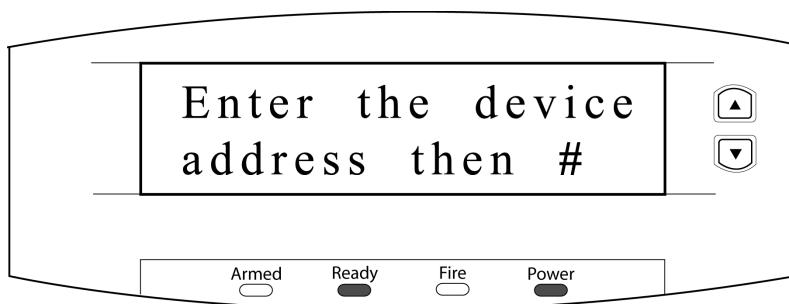

Figure 4: Alarm Panel - Enter Device Address
3. Enter the programming code for the NX-8E (the default is set at 9 7 1 3) followed by the # key. The alarm panel then prompts for the device address (see Figure 4).